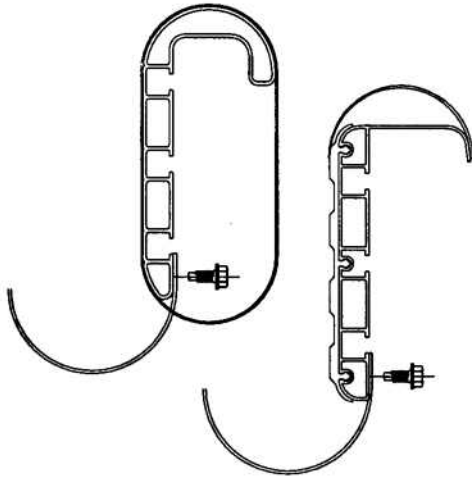

fig. 2
4. Using the supplied self drilling screws attach the backsplash to the bottom of the board as shown in fig. 2. Space the screws out equally making sure not to hit the existing brackets. Making sure not to over tighten the screw because it may show through the rubber tread.